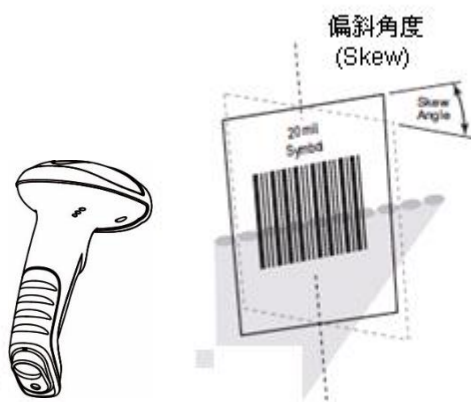

Fig. 1-14
- ✧ Skew: $\pm 75^\circ$, 0° Roll and 0° Pitch (Fig. 1-14)